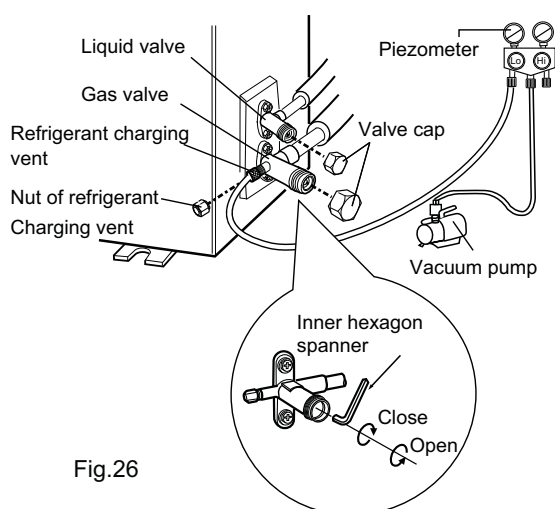

Fig.26
(1) Remove the valve caps on the liquid valve and gas valve and the nut of refrigerant charging vent.
(2) Connect the charging hose of piezometer to the refrigerant charging vent of gas valve and then connect the other charging hose to the vacuum pump.
(3) Open the piezometer completely and operate for 10-15min to check if the pressure of piezometer remains in -0.1MPa .
(4) Close the vacuum pump and maintain this status for 1-2min to check if the pressure of piezometer remains in -0.1MPa . If the pressure decreases, there may be leakage.
(5) Remove the piezometer, open the valve core of liquid valve and gas valve completely with inner hexagon spanner.
(6) Tighten the screw caps of valves and refrigerant charging vent.(As show in Fig.26)